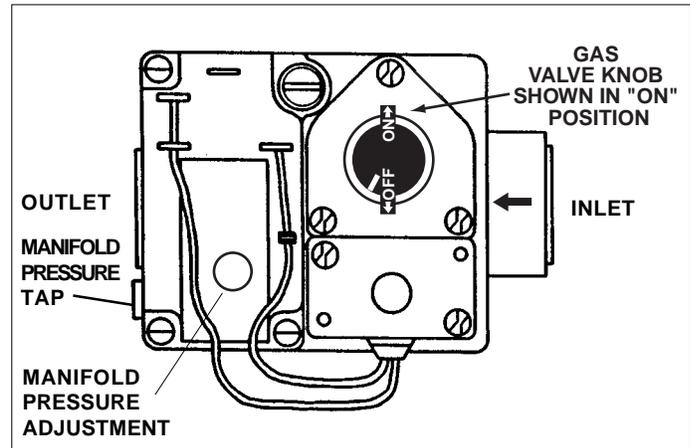

Figure 3. Gas Valve
1. With a 3/16" Allen wrench, remove the manifold pressure tap plug located on the outlet side of the gas valve. Refer to Figure 3.
5. Allow the furnace to operate for three (3) minutes and then check the manifold pressure. For LP gas installations, the manifold pressure should be set to 9.5" WC. If the manifold pressure is not set to the appropriate pressure, then it must be adjusted.
1. If the manifold pressure must be adjusted, then remove the protective cap from the top of the gas valve regulator, as shown in Figure 3.